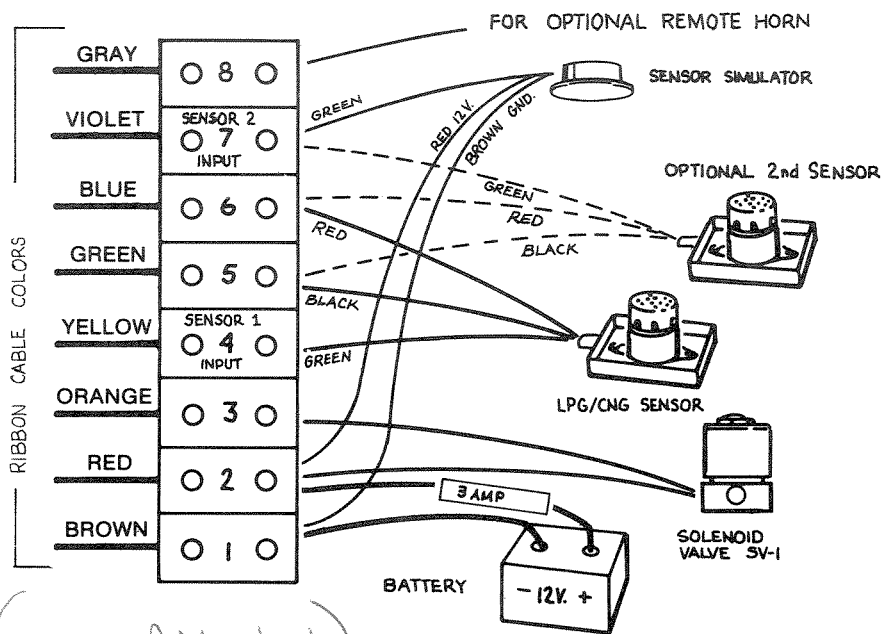

FIGURE 3
The enclosed terminal block may be installed out of sight where easy access to the connections is possible. All connections such as power, sensor, and valve connections are shown in Figure 3 and the wire functions are listed in Table 1.
The Xintex Vapor Detection System you have purchased comes with 2-channel monitoring capability, 1 Propane/CNG Sensor and 1 Sensor Simulator. The Propane/CNG Sensor connects to "Sensor 1" input, and the Sensor Simulator connects to "Sensor 2" input. (See Figure 3.) NOTE: The Black and White wires on the Sensor Simulator are not used in this installation and should be taped together and left unconnected.
If an optional second sensor is installed initially, do not use the sensor simulator. If the second sensor is installed later, remove the sensor simulator and follow the wiring instructions for second sensor indicated in Figure 3.
- the sensor simulator provided with this Vapor Monitor system. The sensor simulator described in the owners manual contained 5 wires. 3 wires (Red, Green, and Brown) were connected. 2 wires (White and Black) were left unconnected. The new simulator contains only 3 wires (Red, Green, and Black). The Red and Green wire connect as before (see fig. 3) and the Black wire connects to terminal where Brown is indicated on the drawing.